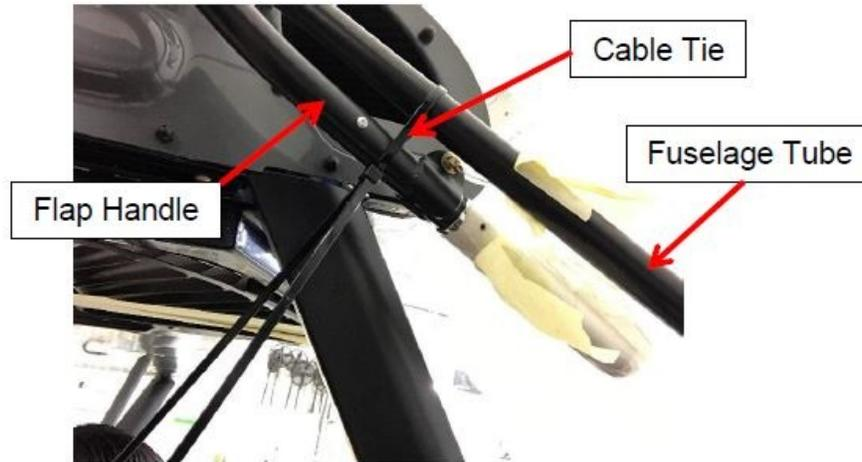

Figure 22 – Flap Handle Secured
- (a) Secure the flap handle so that it is pressed forward against the stop (see Figure 22). Ensure that the turtle deck is installed, as the turtle deck can affect the allowable retraction of the flap.